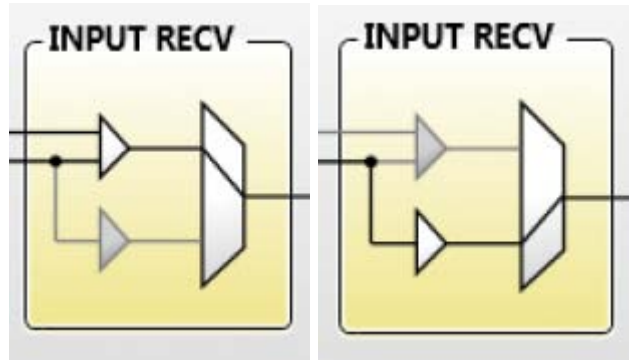

Figure 5. Input Receiver Section
5). The left image in Figure 5 shows the default differential operation of the input receiver. The right image shows single-ended operation.